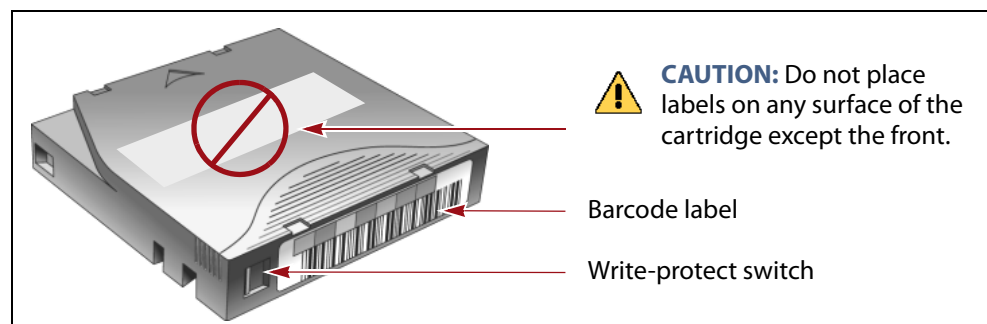

Figure 106 Attach barcode labels to cartridges and check write-protect switch setting (LTO cartridge shown.).
1. If your cartridges are unlabeled, prepare and affix a barcode label to each cartridge. Position each label in the indented area on the cartridge, as illustrated in Figure 106. See Barcode Label Specifications on page 492 for detailed information about barcode labels.
Do not place labels on any surface of the cartridge except the area shown in Figure 106. An improperly positioned label can become dislodged and damage the drive.